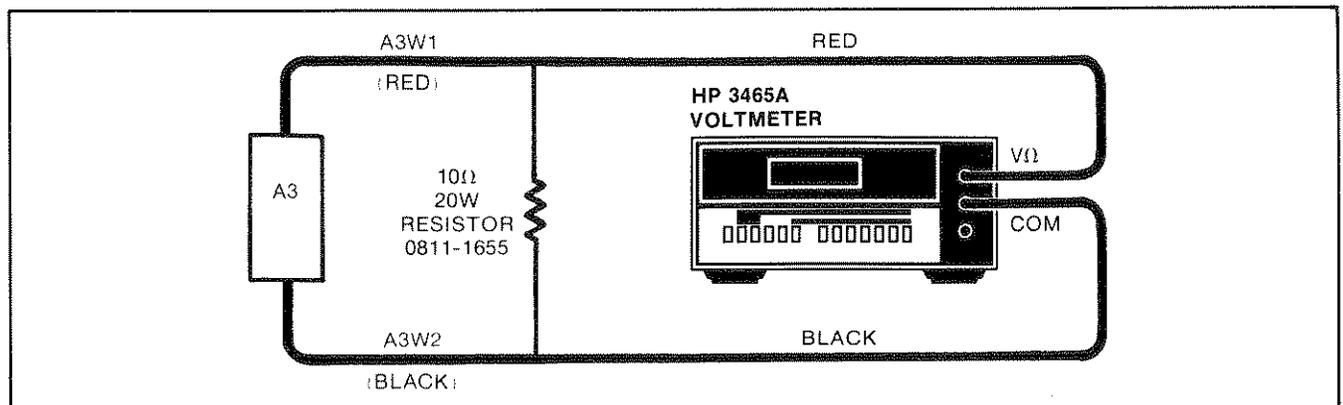

Figure 5-9. Fast Charge Current Adjustment Setup
b. Connect the A3 battery charger to an HP 3465A voltmeter and 10Ω, 20W resistor as shown in Figure 5-9.